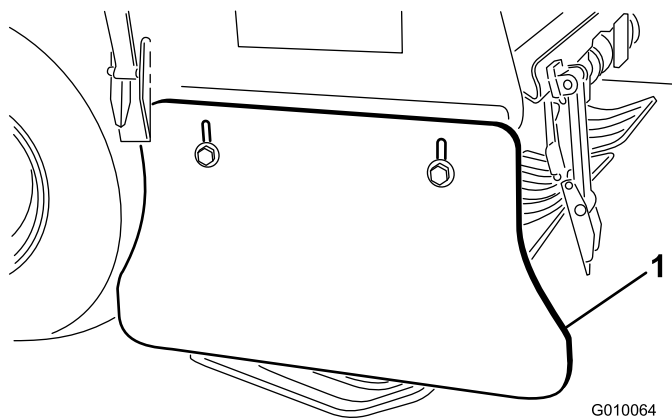

Figure 62
1. Loosen the bolts and nuts securing the side shield to frame (Figure 62).